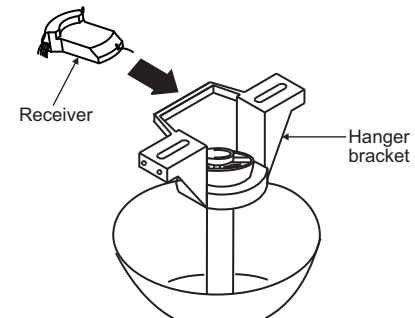

Fig. 12
Step 3. Insert the receiver into the ceiling mounting bracket with the flat side of the receiver facing the ceiling. (Fig. 12) For best performance, make sure the Black Antenna, on the end of the receiver, remains extended and not tangled with any of the electrical wires.